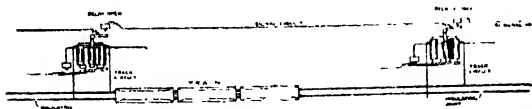

Fig. 37. This diagram shows how the signal current has to pass through *two* relays before it can lower the signal and *either of them can stop it*.
I must now ask you to turn to the next diagram (Fig. 37). We have just seen how, in order to give a "line-clear" indication, the 2-4-volt current must first be flowing (and flowing fairly strongly, too, for it has to lift the weight of the armature), then it must close the lower contact, so as to energize the swinging magnet and close the upper contact. Any weakness or failure, be it noted carefully, puts the signal to danger. Then you will observe by this last diagram that there are two of these relays, one at each end of the section, and to give a line-
- (b) One relay short-circuited, the other energized normally by extraneous current. Result—signal circuit broken at one point (as shown in Fig. 37).